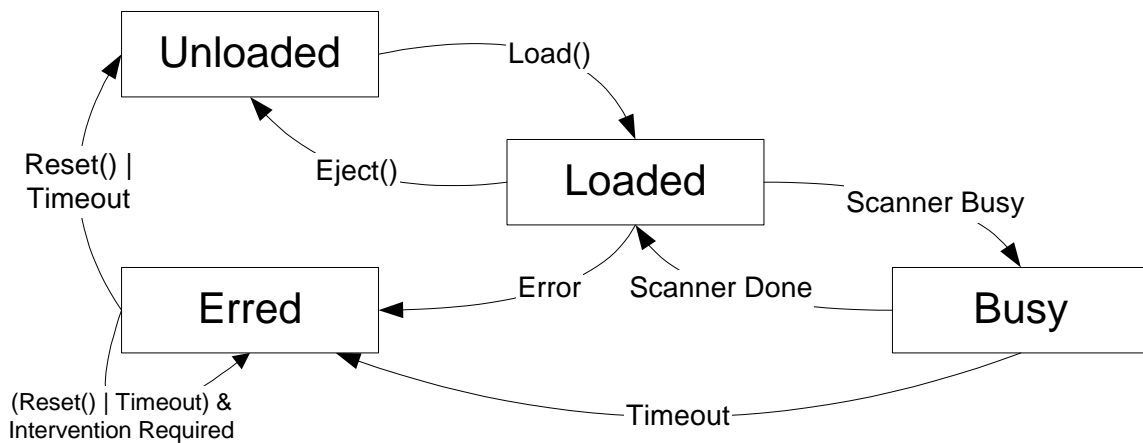
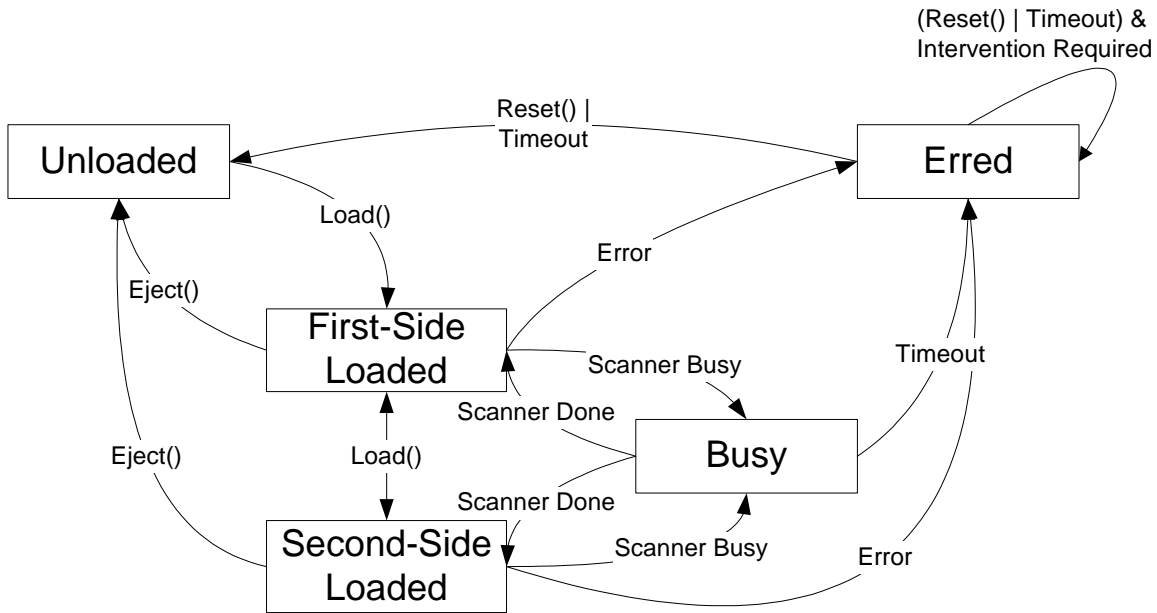

Figure 1 – Simplex Feeder State Diagram
Figure 2 - Duplex Feeder State Diagram
Attempt to load a sheet. If successful, set the State to **Loaded, First-Side-Loaded, or Second-Side-Loaded**. The resulting state value is returned. See the state diagrams in *Figure 1* and *Figure 2* on page 14. The Load action is not valid in the Busy state. If it is used in the Busy state, then Action Failed (501) is returned and the action is not performed.